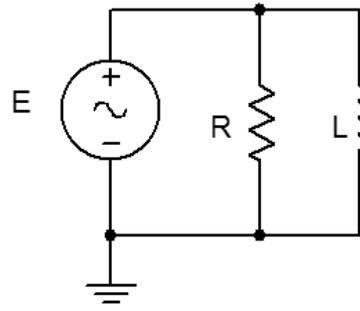

Figure 7.2
8. Replace the capacitor with the $10\ \text{mH}$ inductor (i.e. Figure 7.2), and repeat steps 1 through 7 in like manner, using Tables 7.3 and 7.4.
4. In general, how would the phasor diagram of Figure 7.2 change if the frequency was lowered?